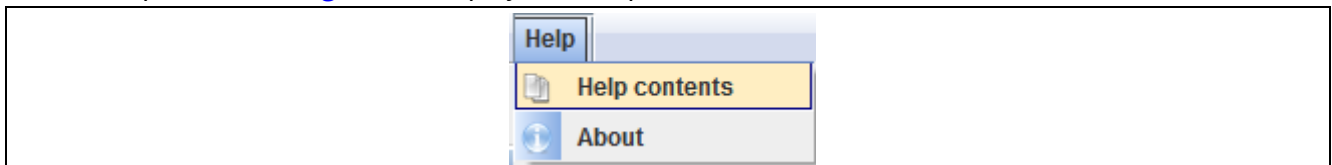

Figure 29 .dp Vision Help Menu
6. The Help menu (see Figure 29) displays this help manual.